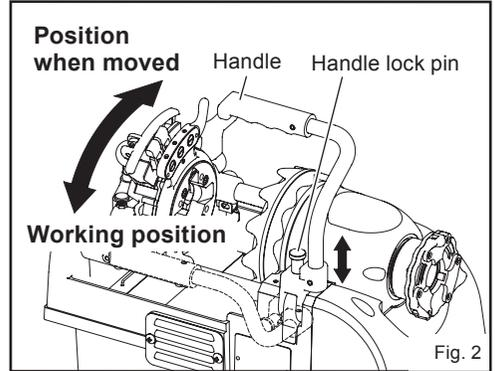

Fig. 2
## 1. Transportation (Fig. 2)
- Always position the handle as shown in Fig. 2 when cutting threads or performing other similar work.
Ensure the handle is lowered when the machine is in use. (Pg. 6, Fig. 2)